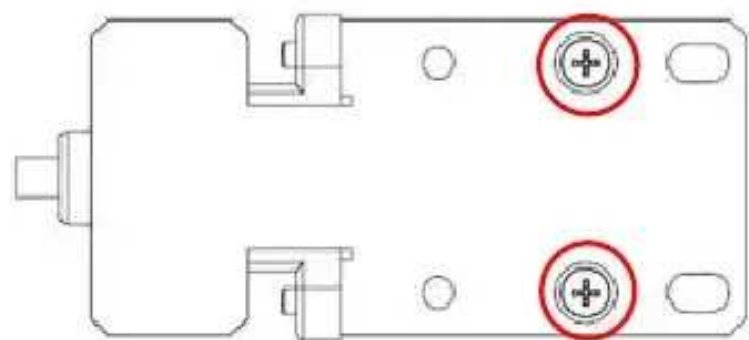

Fig. 3-17
- b) Remove two M3X6 screw assemblies fixing the card board (as shown in Fig. 3-17) to withdraw the dongle.